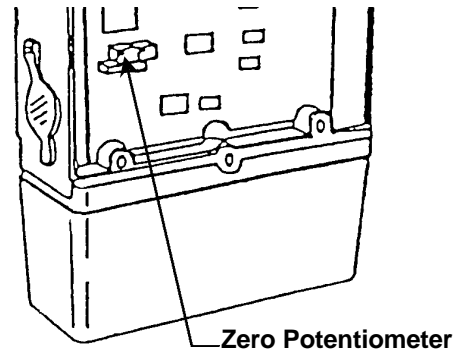

Figure 3-11: Location of Explosive Gas Channel Zero Potentiometer
- Set the zero point using the zero potentiometer; see Figure 3-11. Turn the potentiometer clockwise to increase the displayed value.